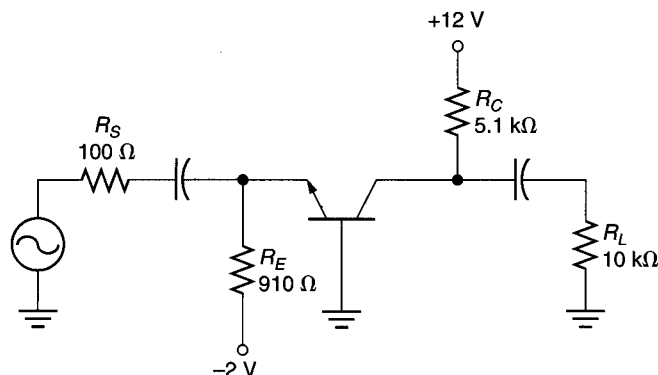

FIGURE 10.28
23. Determine the value of  $A_v$  for the amplifier in Figure 10.28.
25. Determine the values of  $Z_{in}$  and  $Z_{out}$  for the amplifier in Figure 10.28.
30. The circuit shown in Figure 10.28 has a constant  $V_C$  of +12 Vdc. Discuss the possible causes of the problem.